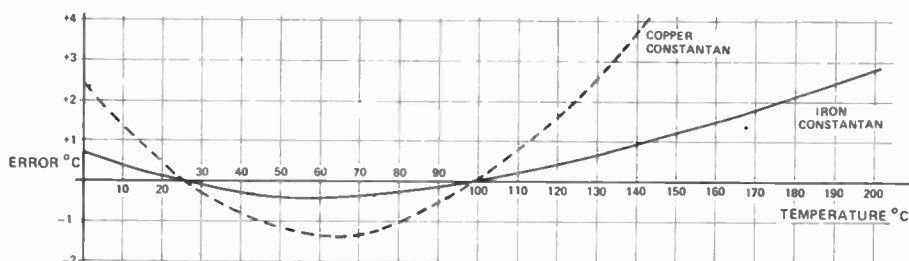

Fig. 7. Comparison of errors for copper/con and iron/con thermocouples calibrated at ambient and 100°C.
Because most thermocouples are non-linear (i.e. do not have a directly proportional relationship between voltage and temperature) they are usually compensated over the temperature range used. However with iron/constantan the non-linearity is less than 1°C from 0 to 140°C and less than 3°C up to 200°C. If greater accuracy than this is required, the correction graph (Fig. 7) should be used. It is possible to build correction
- M1 meter 1mA FSD scaled 0-100 or scaled to Fig. 7